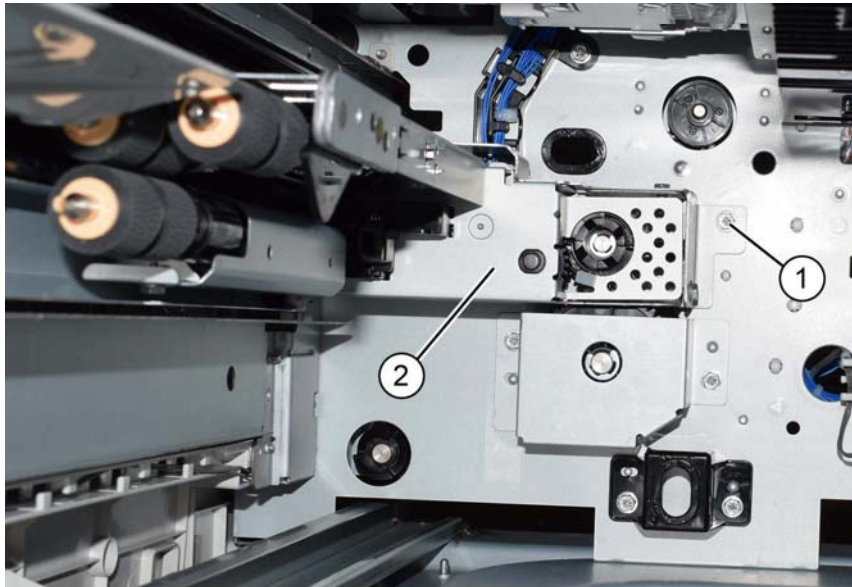

Figure 5 Tray 3 feeder assembly removal
8. Remove the complete tray 3 feeder assembly including bracket, Figure 5.
- a. Remove the screw (1).
- b. Remove the tray 3 feeder assembly (2).